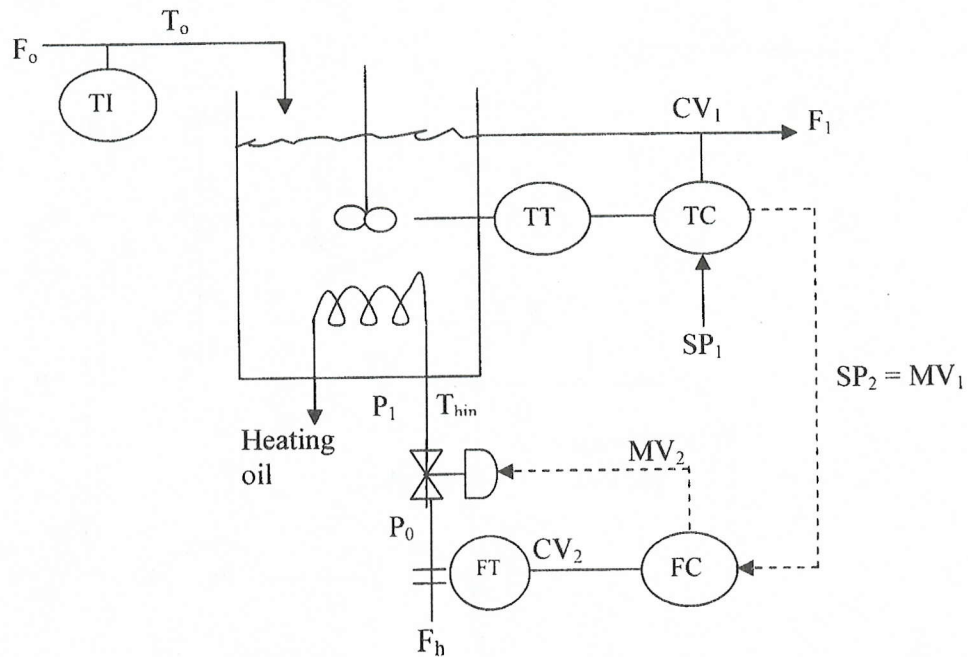

Figure Q. 6. : Stirred-tank heat exchanger with cascade control
6. Figure Q.6 shows a stirred-tank heat exchanger with cascade control:-